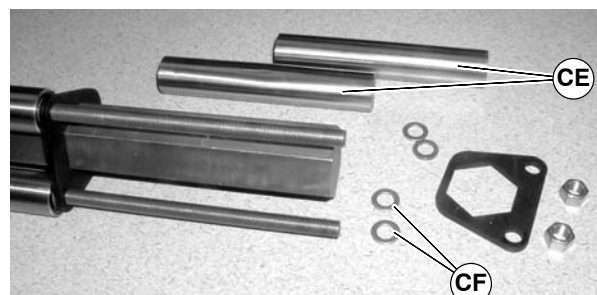

Figure 59
7. Remove pulleys (CE of Figure 59) and additional washers (CF).